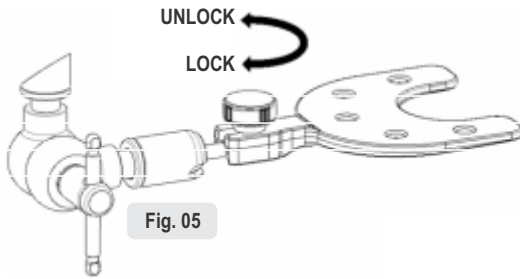

Fig. 05
05- Dentulous bitefork (12): Position the bitefork in the transfer set until the transfer set limit and use the screw to fix it (fig.05).